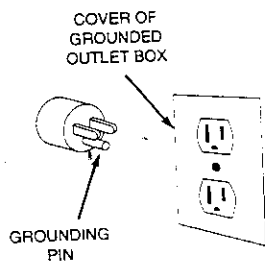
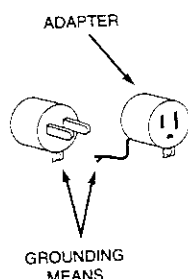

Figure 1
Figure 2
- A 3-prong to 2-prong grounding adapter is available for connecting plugs as shown in Figure 1 (See Figures 2 & 3).